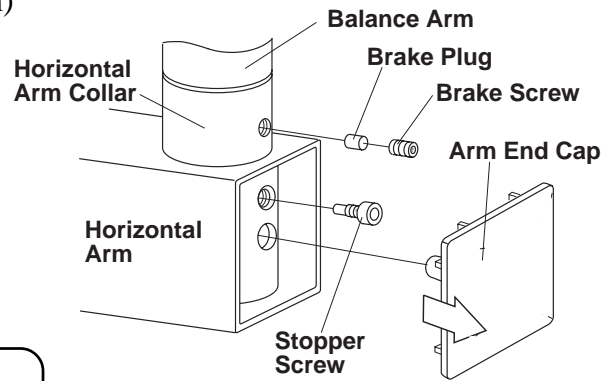

Fig.3-13 Attaching Balance Arm to Horizontal Arm
7. Insert the brake plug and brake screw (M6 x 6mm) into the horizontal arm collar. (Fig.3-13)
8. Remove the end cap from horizontal arm. Insert the stopper screw into upper threaded hole inside horizontal arm and tighten securely. Replace the end cap. (Fig.3-13)
If the end of the horizontal arm shown in position #1 is pitched below level, then the tube head will drift away from the wall. If the end of the horizontal arm in position #1 is pitched above level, then the arm will require only minimum adjustment of the brake screw. (Fig.3-13)